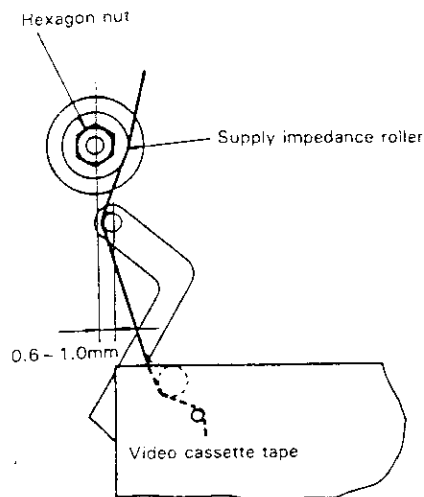

Figure 1-11.
• Position checking (Fig. 1-11)
3. The pole bases A and B (see page 3; item 52 and 53.) operate to bring the tape outside the cassette housing and simultaneously the tension pole moves to the left, loading the tape. At that time (loading mode), check the position of the tension pole.